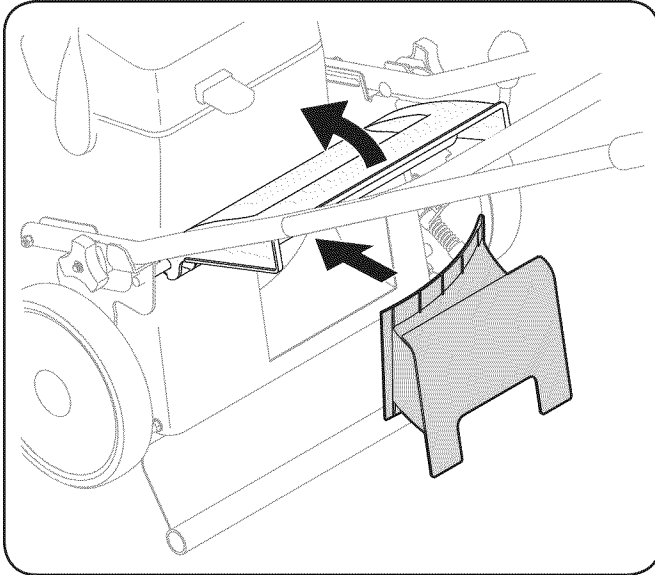

Figure 3-10
- Install rear mulching baffle. See Fig. 3-10.
- Make sure the rear mulching baffle is installed. See Fig. 3-10.